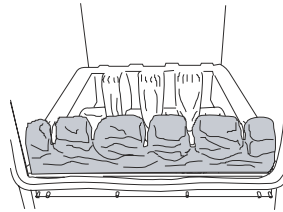

Figure 25
2. Place the front burner ceramic in its supports in front of the burner as in **Figure 25**. Manipulate the rear ceramic so that the front ceramic slides in easily.